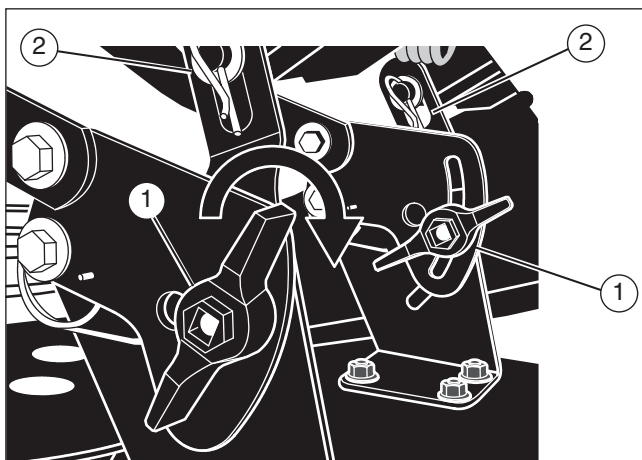

Figure 29
4. Loosen the left and right adjuster knobs (1) (see Figure 29). Push down on each side of the mower housing. Make sure both sides of the mower housing are setting on a flat surface. Also, make sure the lift links are loose and can easily move up or down.